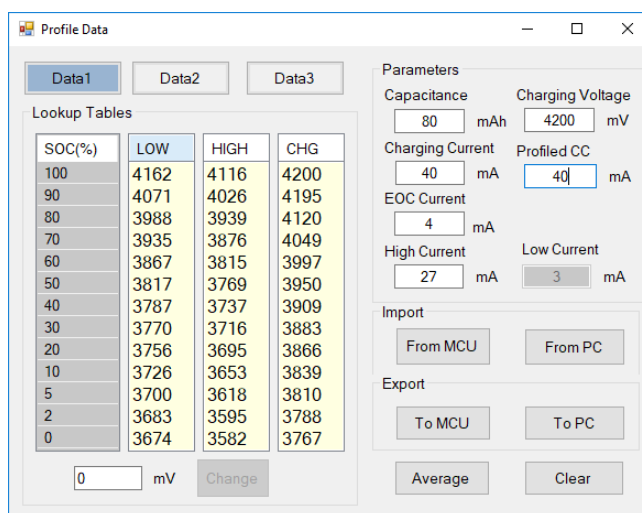
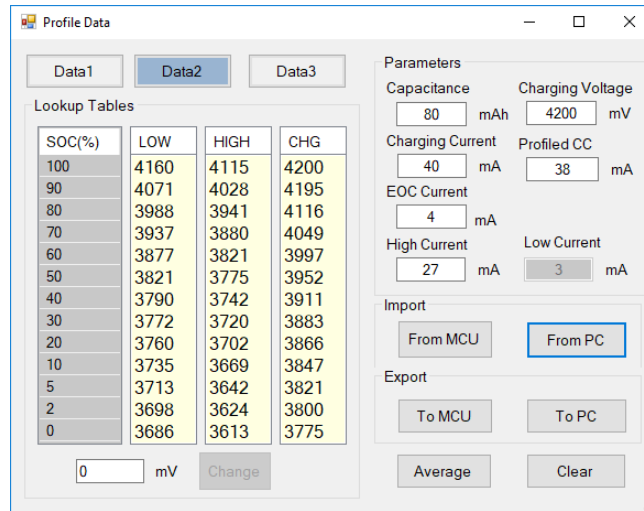
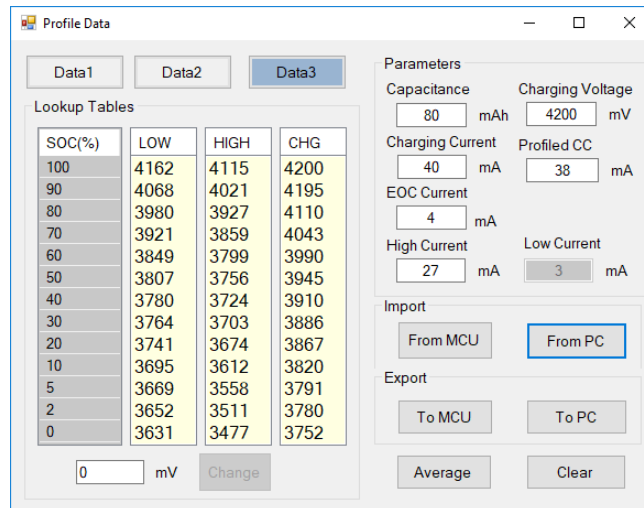
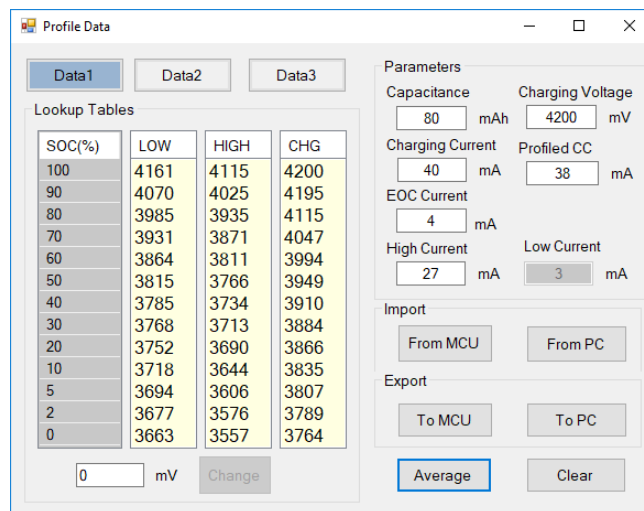

Figure 26: Added or Imported Profile Data1
Figure 27: Added or Imported Profile Data2
Figure 28: Added or Imported Profile Data3
Figure 29: Averaged Profile Data
A battery manufacturer could provide the profile data for a customer and most of parameters are defined in the specification document of the battery. Additionally, the manufacturer might provide the voltage lookup tables for specified currents. If all profile data are available, these can be exported to the MCU using this menu without additional battery profile, see Figure 26. In this case, the **Profiled CC** should be the same as the **Charging Current**.
Figure 26, Figure 27, and Figure 28 show imported Data1, Data2, and Data3. These 3-profile data can be averaged by clicking the **Average** button and the data can be exported to the MCU, see Figure 29.
2. Generate a battery profile data with each battery A, B, and C, see Figure 26, Figure 27, and Figure 28.
3. Average 3 batteries profile data as shown in Figure 29.